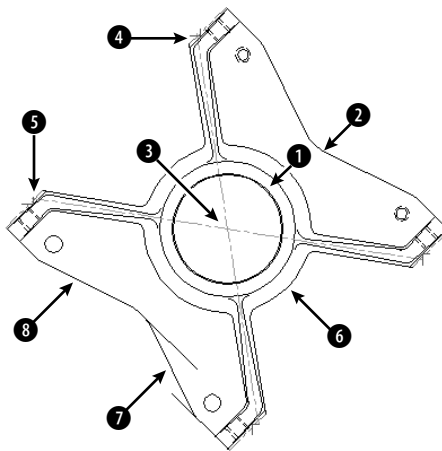

**Figure 14-18:** A bearing housing for an industrial washing machine.
2. Save the file as `ab14-04.dwg` in your AutoCAD Bible folder. This is a view of a bearing housing for an industrial washing machine, as shown in Figure 14-18. OSNAP should be on. Set running object snaps to endpoint, intersection, and center. If the Dimension toolbar isn't visible, right-click any toolbar and choose Dimension.
4.  Choose Diameter from the Dimension toolbar. At the *Select arc or circle:* prompt, choose the outer of the two circles at ① in Figure 14-18. At the *Specify dimension line location or [Mtext/Text/Angle]:* prompt, pick a location for the dimension line.
5.  Choose Radius from the Dimension toolbar. At the *Select arc or circle:* prompt, choose ② from Figure 14-18. At the *Specify dimension line location or [Mtext/Text/Angle]:* prompt, pick a location for the dimension line. The line may appear to the left of the angle; try moving the cursor until the dimension appears to its right.
Specify angle vertex: *Pick ❸ in Figure 14-18.*
7. Repeat the DIMANGULAR command. At the Select arc, circle, line, or <specify vertex>: prompt, pick the arc at ❹. At the Specify dimension arc line location or [Mtext/Text/Angle]: prompt, pick a location for the dimension line.
8.  Choose Arc Length from the Dimension toolbar. At the Select arc or polyline arc segment: prompt, again pick the arc at ❹. At the Specify arc length dimension location, or [Mtext/Text/Angle/Partial]: prompt, pick a location for the dimension line further out than the previous dimension line that you drew.
9. Start the DIMANGULAR command. At the Select arc, circle, line, or press ENTER: prompt, pick ❹ in Figure 14-18. At the Second line: prompt, pick ❸. At the Dimension arc line location (Mtext/Text/Angle): prompt, pick a location for the dimension line to the left of the model.